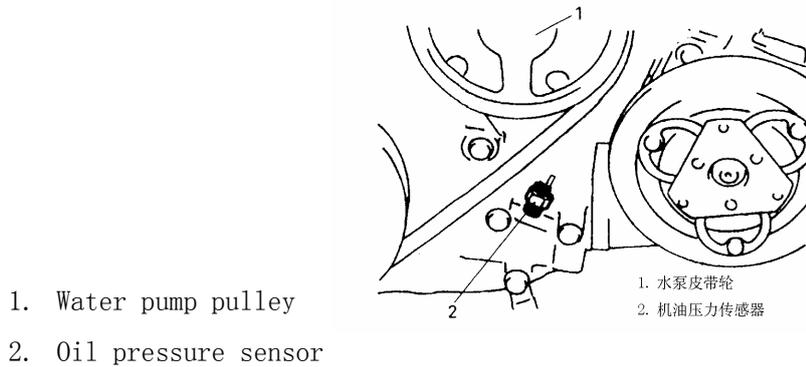

FIG. 5-25
1) As FIG. 5-25, remove front bumper and oil pressure sensor on the synchronous belt cover